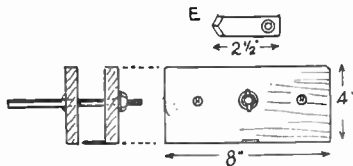

Fig. 3
At Fig. 2 is shown the sewing frame, with a section, ready for sewing, in position. Make this about 15 ins. long and 8 ins. wide from plywood, to which thickening strips are glued underneath at back and front. The posts can be  $\frac{3}{4}$  in square and 7 ins. high; they are jointed to the baseboard as at (C) and a strip of wood is nailed across the top. Quite a simple affair. At Fig. 3 is given a design for a simple form of bookbinder's plough for trimming the edges of the volume. The sides of this are cut from  $\frac{1}{4}$  in. hardwood. Fasten both together and drill